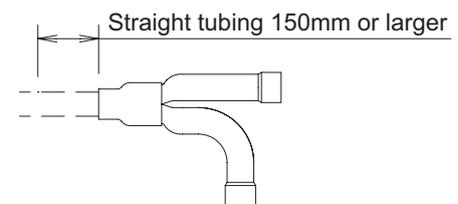

Fig. 2-4
- For branching tubes, install 150mm or larger (including reducer) straight tubing up to the point where the tube branches (or after the point where the tubes join together). (Fig. 2-4)